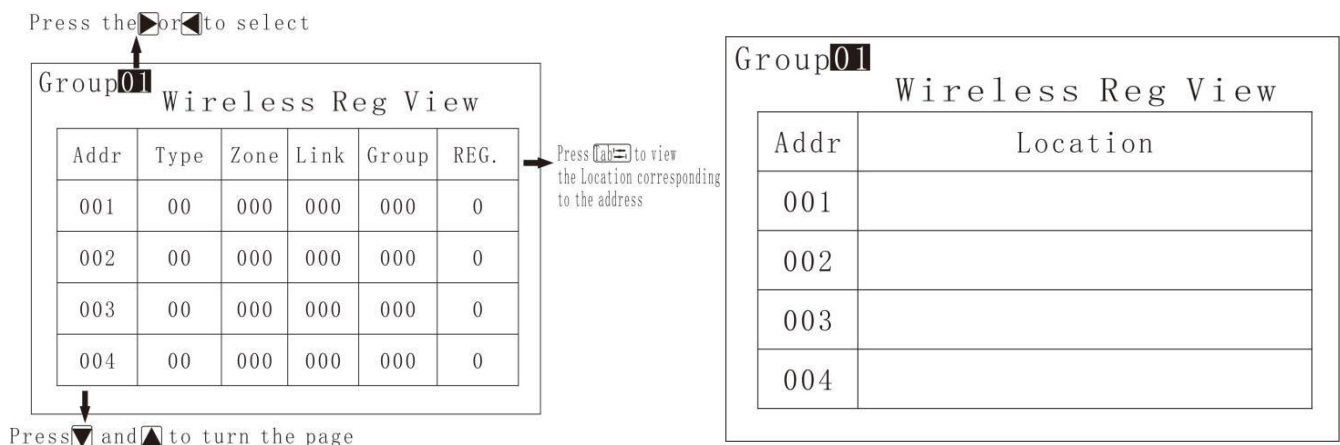

Figure 21. Device View Menu
- After setting all devices, you can view the device Settings view. As shown in figure 21. “Register view “and “Wireless reg view” respectively.